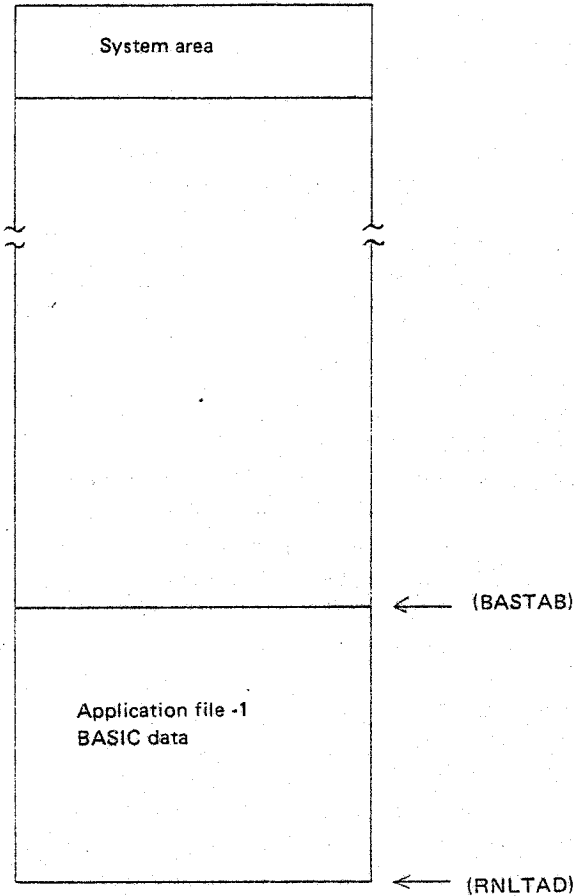

Fig. 18-8 Status before Reserving Memory Area
- (1) When control is transferred to the program for reserving memory area, the BASIC interpreter is already running and the BASIC application files are already extended. The file reform routine is therefore called to store only the necessary data in the application files. (Fig. 18-8)